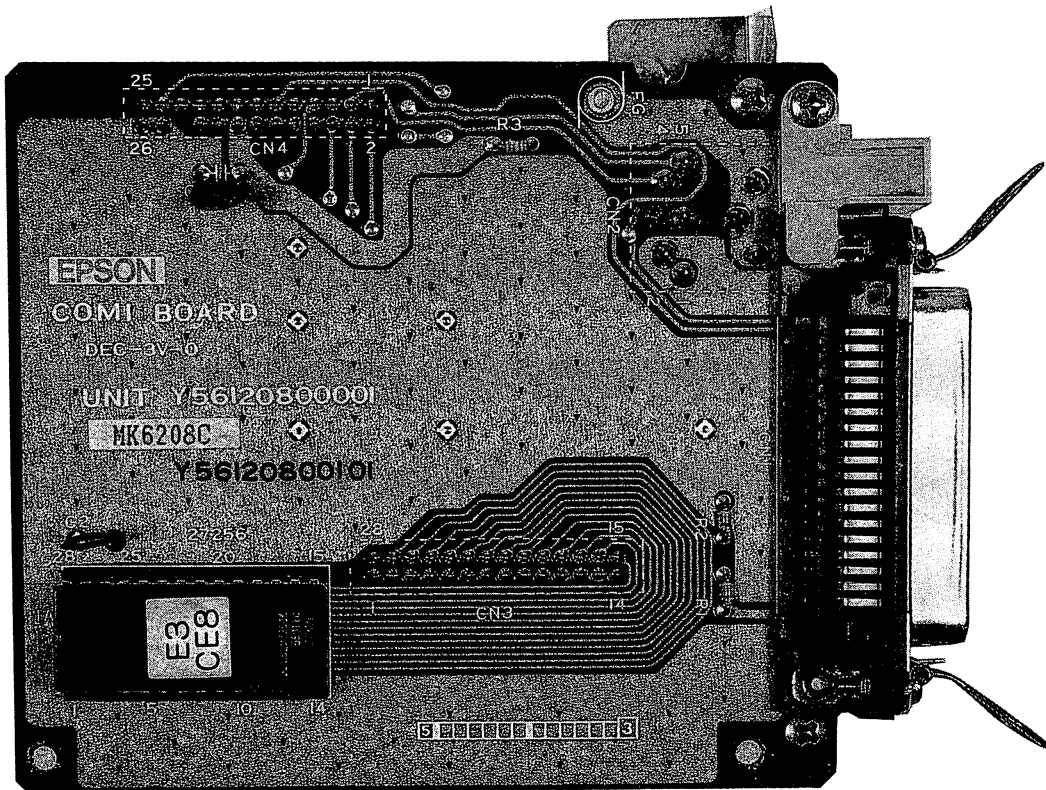

Fig. 1-11. COMI Board
1.4.3 COMI Interface Board (Fig. 1-11)